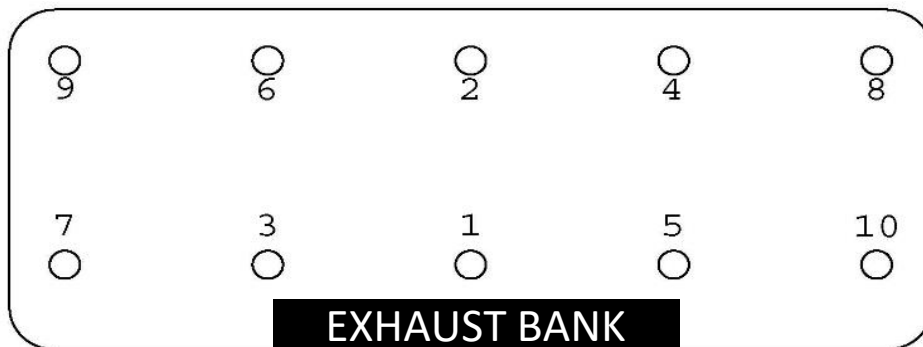

Figure 1 - Head Nut Loosening / Tightening Sequence
- 5) It is absolutely necessary that a small amount of neversieze, oil or grease is applied to the head nut end of the stud prior to torquing. Using the same torque sequence as shown below in Figure 1, torque the head nuts in **15lb increments**. KPMI recommends a final torque of **50 lb**. This is a 10mm stud being threaded into aluminum and the clamping force being achieved with these Heavy Duty KPMI® Black Diamond™ Studs will be a combined increase of over 2900 lbs. from stock. If an experienced engine builder wants to exceed the recommended torque, they may do so at their own discretion.